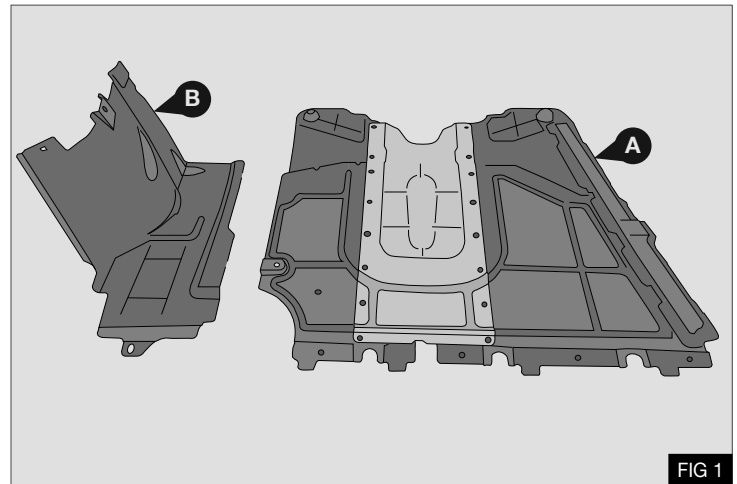

FIG 1
2. Remove engine under panel (A) and side panel (B) - Fig 1